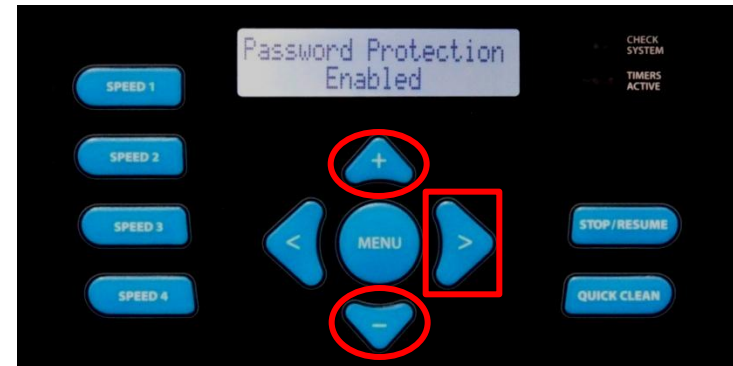

Figure 77
1. If you have a commercial EcoStar you will see this screen (fig 77) after Low Temp Operation. At this point you can enable or disable the Password Protection feature by pressing the **+** & **-** button. Press the **>** button to continue.